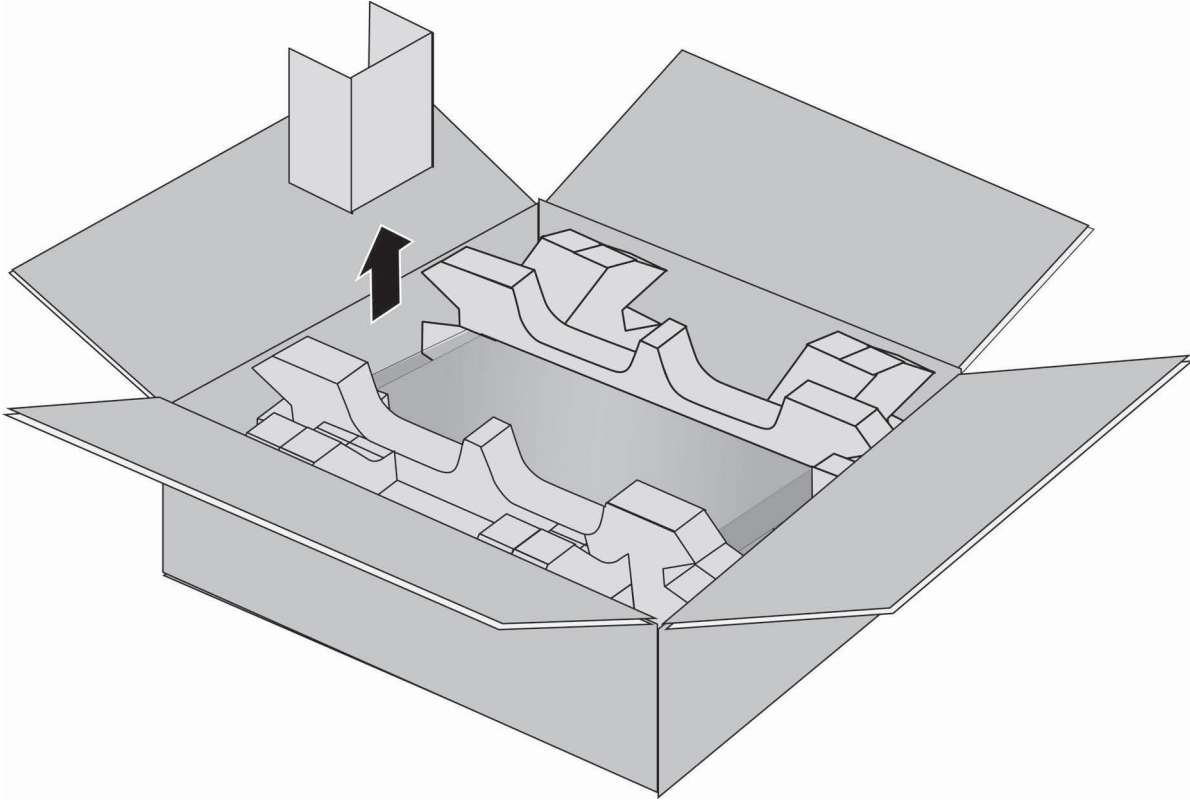

Figure 52. Removing the Shipping Partition
2. Remove the accessory partition. Refer to Figure 52 on page 114.